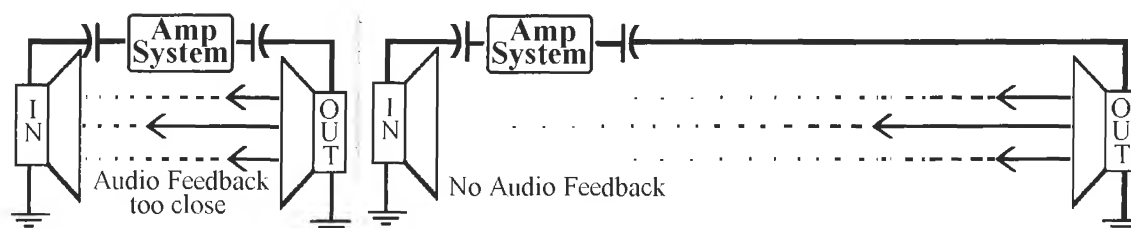

Figure L54-4
- As you increase the volume, the circuit might start screeching at you. Notch the gain backward until the screeching stops. The screeching is caused by feedback demonstrated in Figure L54-4. Sound from the output is reaching the input and multiplying itself.